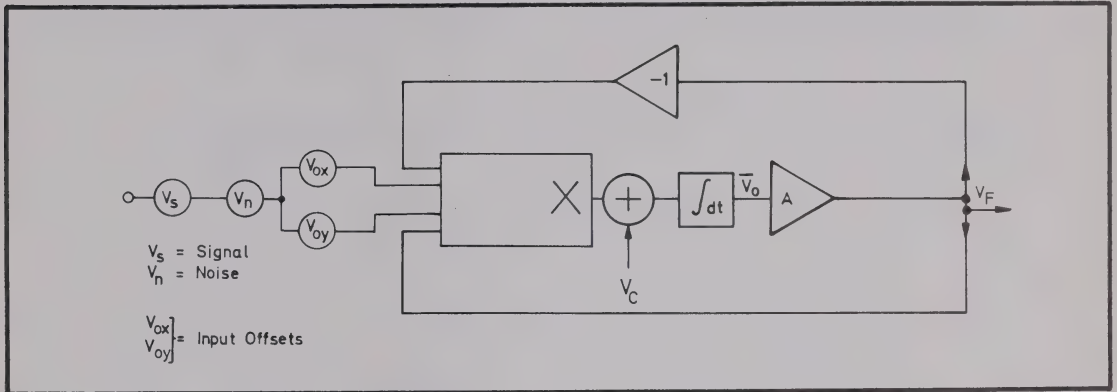

Fig. 5.7 Feedback Loop
5.A.1.1 The block diagram of the measuring circuit is shown in Fig. 5.7. The voltages V_s and V_n represent the signal and noise inputs from the preceding circuit, while V_{ox} and V_{oy} are the input offset voltages occurring at the multiplier inputs. The input V_c is a voltage generated during the auto-zero period and injected into the circuit during the following measurement period.